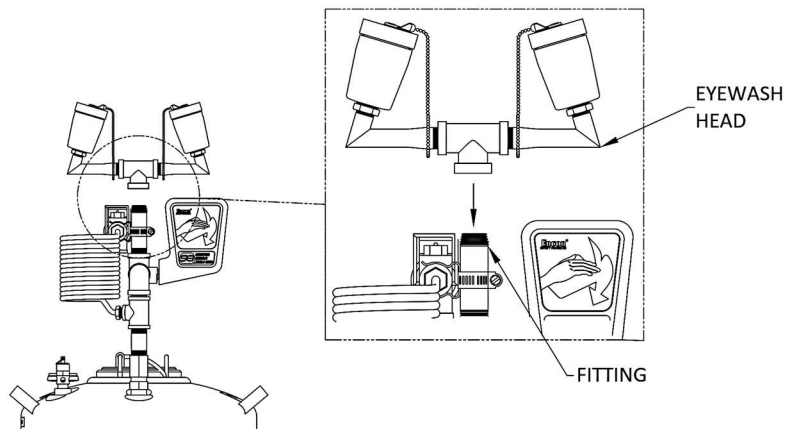

FIGURE 3
- D. Thread eyewash head assembly onto end of piping assembly using appropriate pipe sealant. **Do not use sealant tape. Hand tighten only until snug.** Once snug, rotate back until eyewash heads are aligned with push plate (when in off position). Do not over tighten (Figure 3).